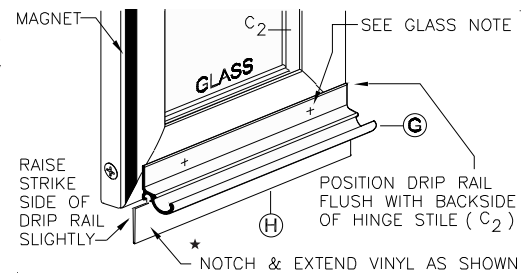
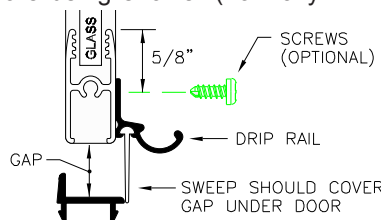
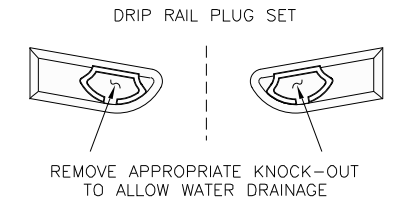

figure 6
figure 8
figure 7
8.*Notch and extend Vinyl Sweep (H) pass Drip Rail edge as shown in figure 6. Attach Drip Plugs (I) onto Drip Rail (see exploded view - sheet 1), **be sure to remove the knockout on the hinge side drip plug so the water will drain** (see figure 7). Clean bottom rail of door with alcohol to remove any oil. Failure to clean door rail prior to installation of Drip Rail (G) may cause tape to release. Remove backing from tape and position Drip Rail flush with backside of Hinge Stile (c2) as shown in figure 6. Sweep should cover gap at bottom of Door as shown in figure 8. Slightly elevate Drip Rail at strike side prior to securing to create a sloping effect.